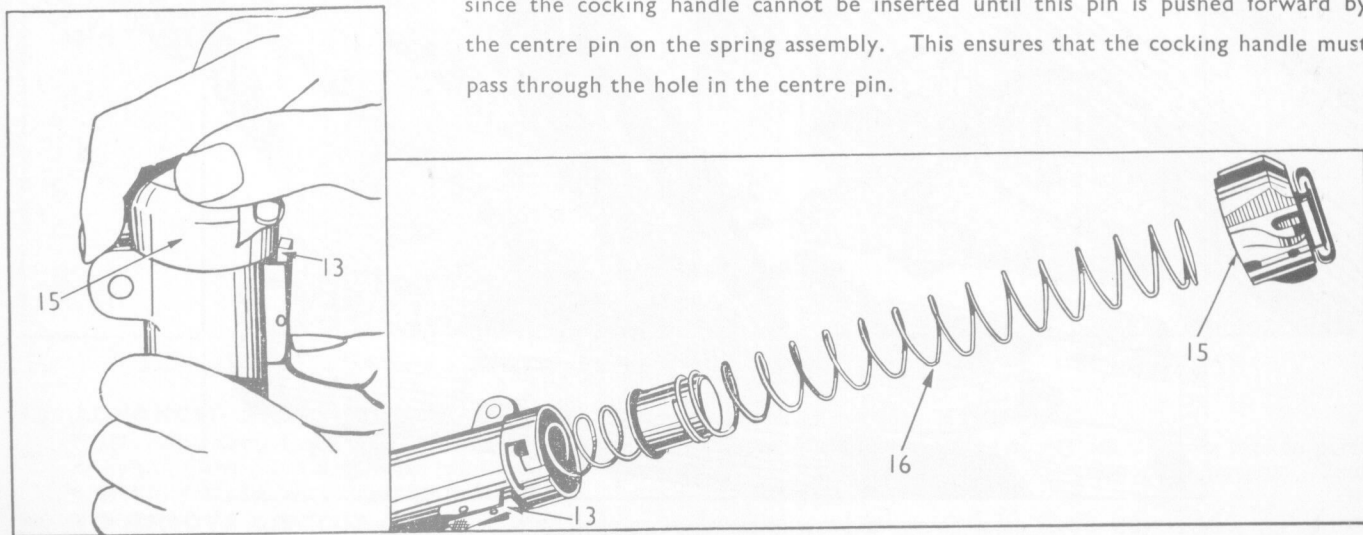

Fig. 10. To remove return spring and bolt
**8.0 ELEMENTARY STRIPPING AND ASSEMBLING** (Figs. 10 and 11). Before stripping, ensure that the weapon is not loaded and remove sling if fitted. Set change lever to A, place butt in the folded position and bolt forward.